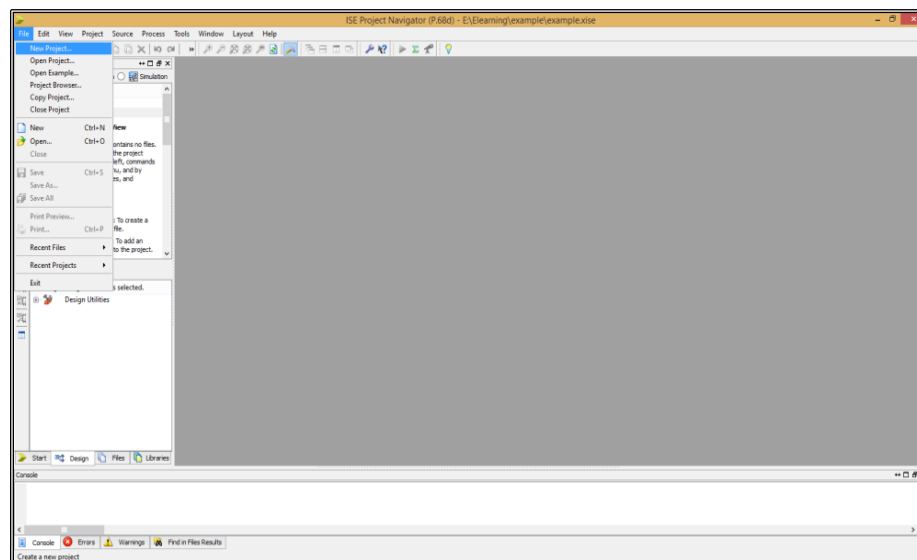

Fig 1.1: ISE Project navigator interface
2. The **ISE Project navigator** interface will be opened (Fig. 1.1). In Project Navigator, select **File => New Project**.